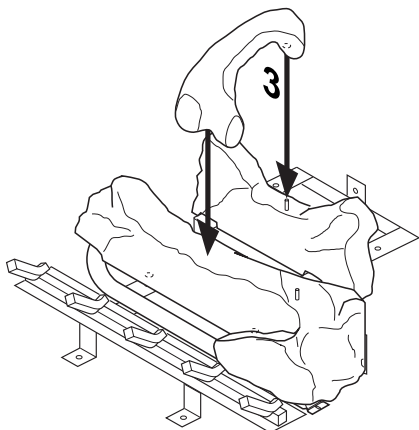

Figure 46 - Installing Log No. 3
- Place log #3 (crossover log) onto the rear and front logs. Make sure it is seated properly on the smooth surface on the front log and on the pin on the back log as shown in Figure 46.